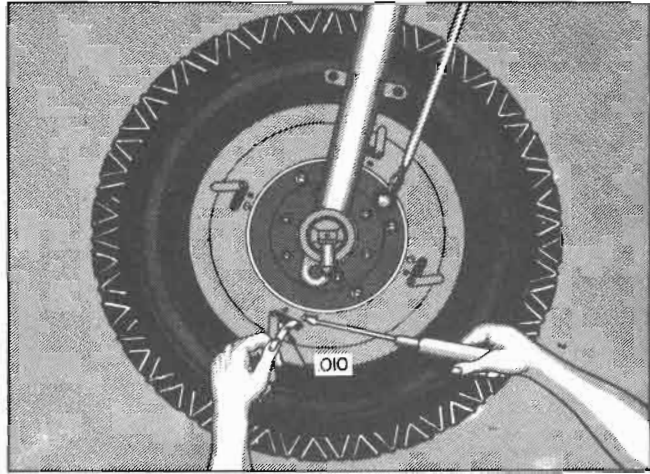

Figure 120 — Brake Shoe Clearance
1. **BRAKE SHOES.**—Bleeding the brake hydraulic system is not necessary before each brake adjustment unless there is an indication of air in the system. A spongy brake pedal usually indicates that there is air in the system. Jack the main landing gear wheels clear of the ground, utilizing the jacking point on the inboard side of each wheel axle. Before attempting to adjust the brakes, remove each wheel and inspect the brakes for damaged or worn parts. Examine the brake lining for grease; if the lining is greasy, it should be replaced with new lining. Ascertain that the brake shoe retracting springs have a good initial tension. If the initial tension is weak they should be replaced. After replacing the wheel and brake drum assembly, make sure that there is no brake drag. Do not confuse *brake drag* with *bearing tightness*. Adjust the wheel bearings as directed in paragraph (5), (d). To adjust the brakes, proceed as follows:
b. With a screw driver, turn the adjusting screw, adjacent to the top forward inspection hole, clockwise until there is a radial clearance of approximately .010 inch between the outer surface of the brake lining and the brake drums. This clearance should be measured with a .010 inch feeler gage leaf, which is inserted through the inspection hole adjacent to the adjusting screw. (See figure 120.) If it is found that the clearance is greater than .010 inch after each adjusting screw has been screwed all the way, the brake shoes must be replaced. To do this, the wheels must be removed.